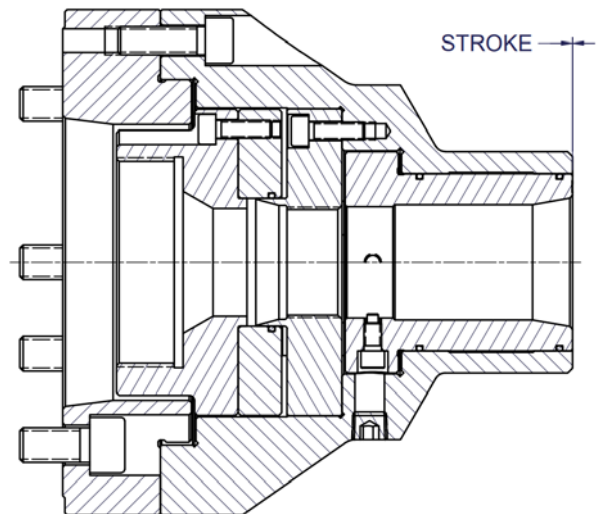

Figure 7.3
8. After the runout of the collet taper has been adjusted, tighten the mounting bolts to the torque specifications given in Section 4. Also make sure to tighten all (4) radial adjusting screws.
9. Actuate the draw tube to verify that the chuck is functioning correctly by measuring the stroke of tapered sleeve as shown in Figure 7.3.